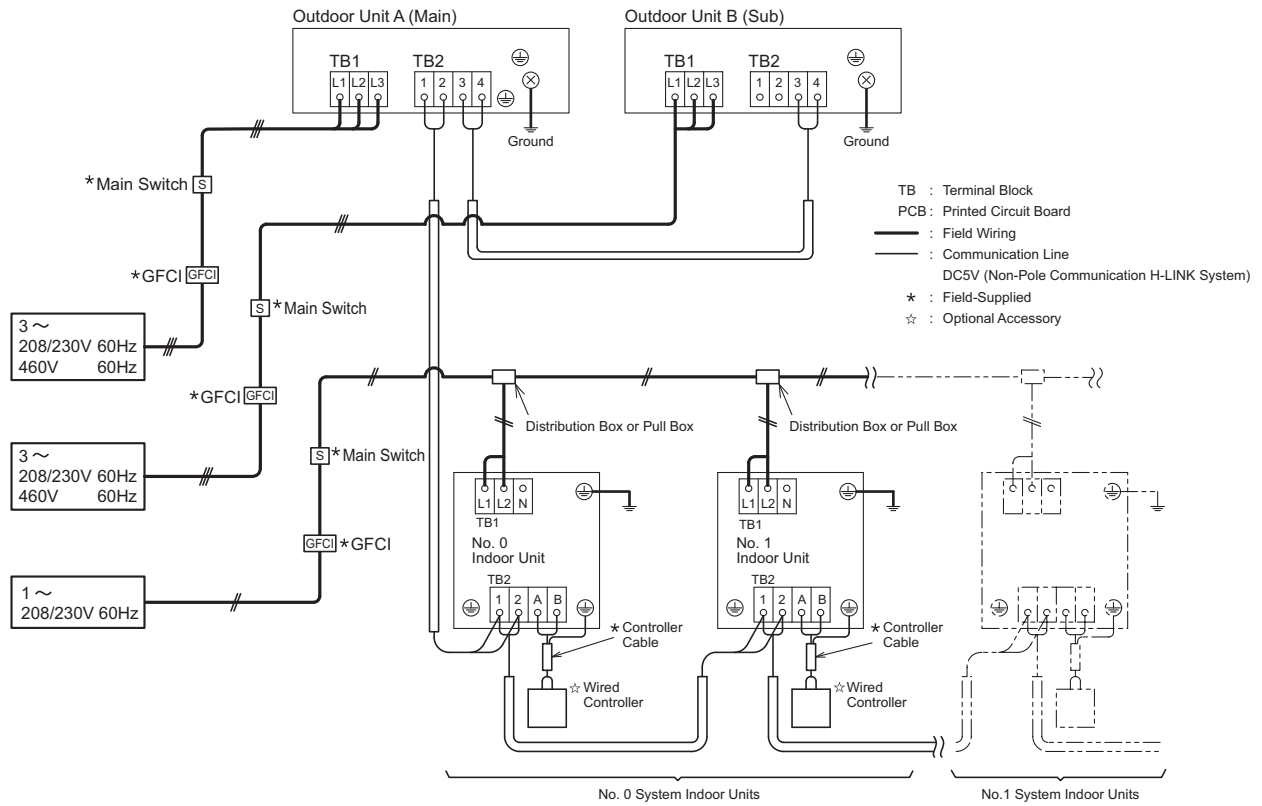

Figure 7.1 Instruction for Electrical Wiring Connection (Heat Pump System)
- (3) Connect the communication cable between indoor units, change-over boxes and outdoor units, as shown in Figure 7.1 and 7.2.
- (4) Connect the communication cables in the same refrigerant system unit. (If the refrigerant piping of indoor unit is connected to the outdoor unit, also connect the communication cables to the same indoor unit.) Connecting the refrigerant piping and communication cables to the different refrigerant systems may lead to malfunction.
- (5) Use communication cabling that is a minimum of AWG18 (0.82mm²), 2-Conductor, Stranded Copper. Shielded cable must be considered for applications and routing in areas of high EMI and other sources of potentially excessive electrical noise to reduce the potential for communication errors. When shielded cabling is applied, proper bonding and termination of the cable shield is required as per Johnson Controls guidelines. Plenum and riser ratings for communication cables must be considered per application and local code requirements. (Do not use Tri-Core or anything beyond.)
- (6) Use the same kind of cables in the same H-LINK system.
- (7) Maintain at least 5 inch (127mm) between the communication cables and the power supply wiring, and also min. 5 ft (1.5m) between the communication cables and power supply wiring for other electrical device. If these cables are not secured, sleeve the power supply wiring into the metallic conduit tubing to separate them from the other cables. Make sure power supply wiring are well-grounded.
- (8) Connect the following communication cables to the terminals 1 and 2 on terminal block (TB2) in the outdoor unit A (main unit).
- (9) Do not connect the power supply wiring to the terminal block for transmission wiring (TB2). All the printed circuit boards in the same refrigerant system will be damaged.
- (10) For a Heat Recovery System, connect the communication cables from indoor unit exclusively used for cooling to the terminals 1 and 2 on TB2 in the change-over box.